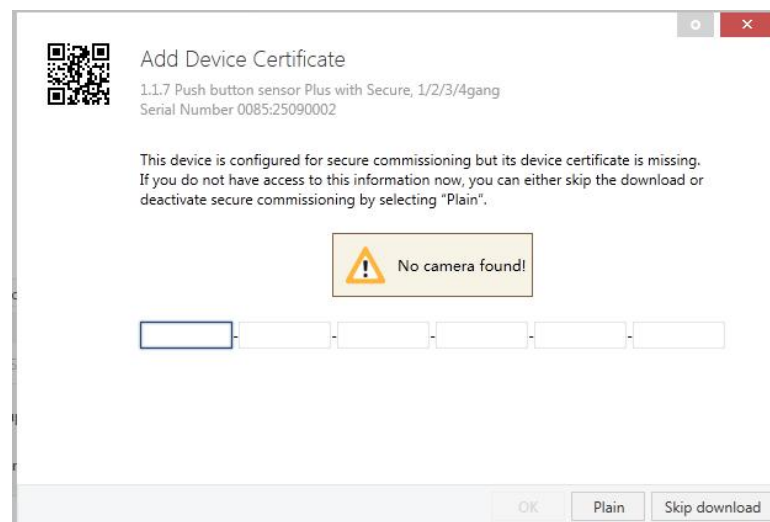

Fig.5.5.1 Add Device Certificate window
- ❖ On the first download of the device, a window pops up in the ETS to prompt the user to enter the key, as shown in Figure 5.5.1 below. The certificate can also be read from the device using a QR scanner (recommended).